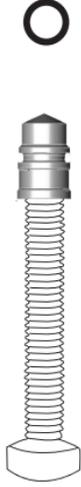

Fig 2
- Place the O-ring into the groove of the battery end cap. (Fig 2)